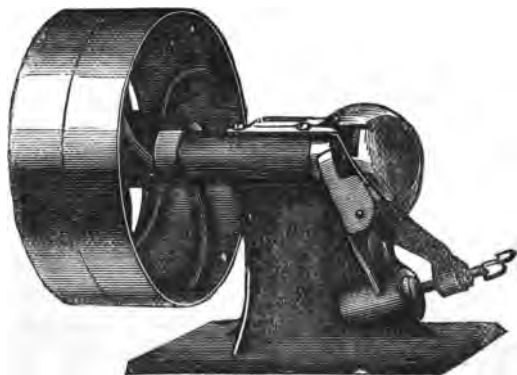

Fig. 77.—RAND TURNING MACHINE.
**Rand Turning Machine.**—This clever invention (Fig. 77) is capable not only of turning but crimping split lifts. This machine is furnished with a driving spindle, on the end of which is fixed a steel rose head with radiating angular grooves, against which the rand, previously bevelled, is firmly pressed by a spring lever,